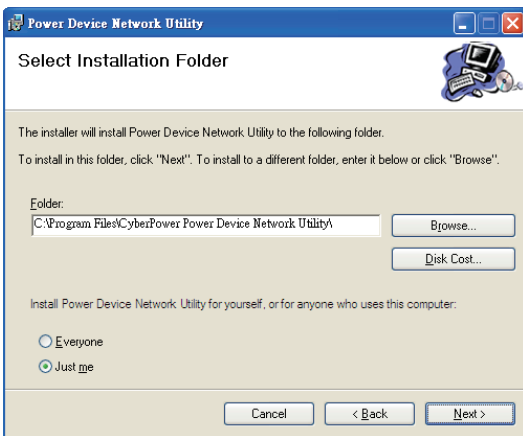

Figure 2. Installation folder and settings
Step 4. Choose an installation directory and user settings. Select Next (Shown in Figure 2.).